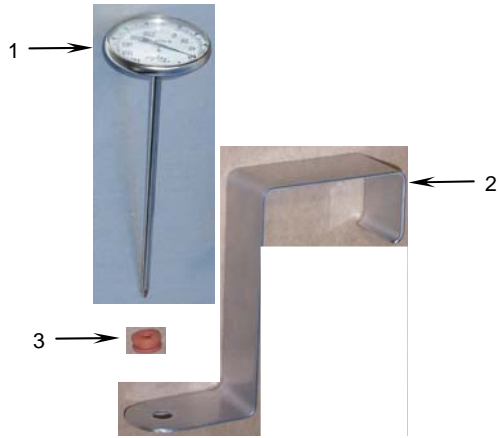

Figure 1. Thermometer Repair.
3. Remove the rubber gloves and inspect the thermometer (**Figure 1, Item 1**), bracket (**Figure 1, Item 2**), and rubber grommet (**Figure 1, Item 3**) for damage.